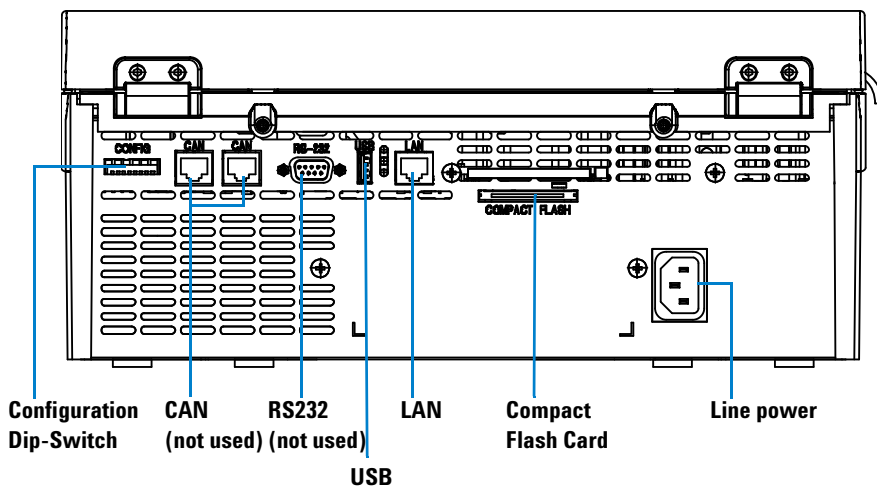

Figure 7 Connections at the rear of the instrument.
The Control PC and the the 3100 OFFGEL fractionator need to be enabled for LAN communication by assigning the PC a suitable IP address first. This IP address is associated with a certain subnet address. The 3100 OFFGEL fractionator has a similar default IP address from the same subnet. This default IP is hard coded in the instrument and enabled by configuration dip-switches on the backside of the instrument (Figure 7 on page 34).
- 3 Reconfigure the instrument to use the customer set IP address by changing the configuration dip-switches (Figure 7 on page 34).